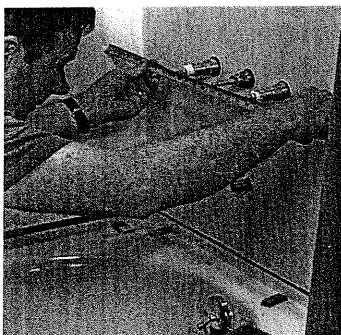

Figure 3
*Measure the distance from the corner to the center of each plumbing pipe*. See figure 3. Write down your measurement.